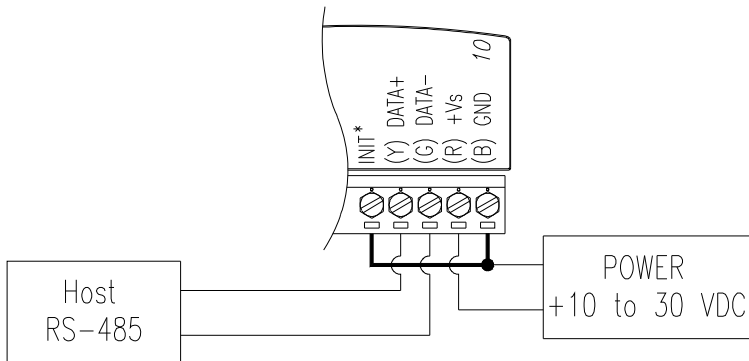
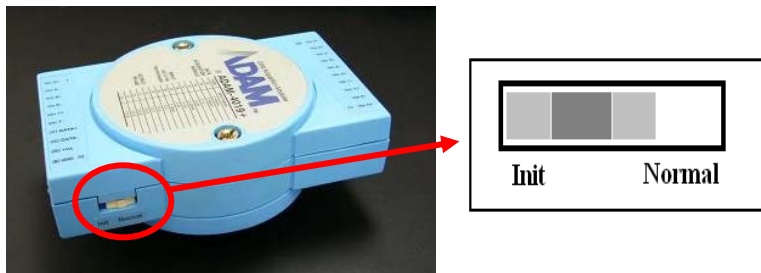

Figure 2-3 *Grounding the INIT* Terminal*
Figure 2-4 *Set INIT switch to “Init”*
Since there is no visual indication of a module's configuration status, it is impossible to know the baud rate, address and other settings just by looking at it. It might not be possible to establish communications with a module whose baud rate and address are unknown. To overcome this problem, most modules have an input terminal labeled INIT*. Booting the module while connecting the INIT* terminal with the module's GND terminal forces the configuration into a known state called the INIT* state. Besides, some newer modules have INIT switch which you can set "Init" or "Normal" (See Figure 2.4). If you set the switch to "Init", then it becomes INIT* state.
- Power the ADAM module on while shorting the INIT* and GND terminals (See Figure 2-3) or set the INIT switch to “Init” (See Figure 2-4)